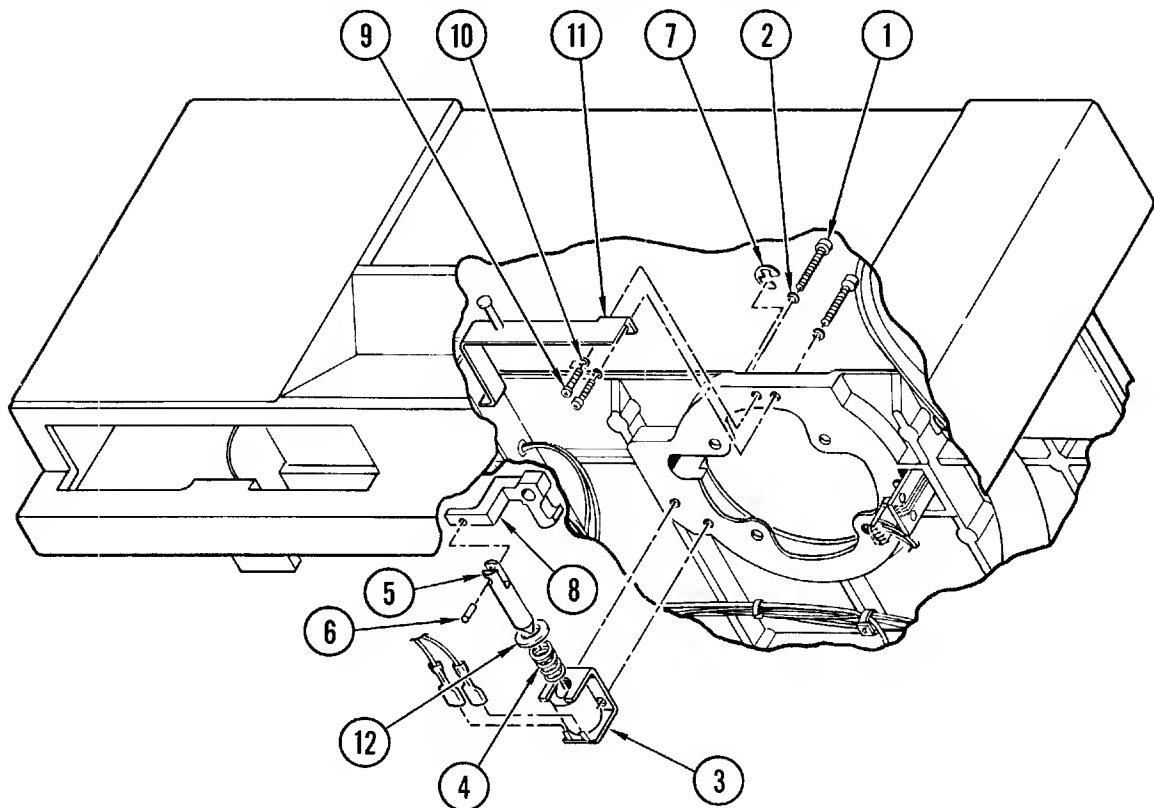

Figure 4-29. Hub Lock Assembly
4-45. Disassembly, Removal and Replacement (Figure 4-29). To disassemble hub lock assembly and remove parts from top plate and supply motor, proceed as follows:
- c. Remove wire terminals from solenoid (3, Figure 4-29) and identify for reassembly.
- d. Remove two screws (1), and lockwashers (2), and remove solenoid (3) from top plate and spring (4) and washer (12) from solenoid plunger (5).
- e. If plunger (5) or bellcrank (8) must be replaced, remove supply motor in accordance with instructions in paragraph 4-44. Remove retaining ring (7) and bellcrank (8) from motor, and press out pin (6), releasing plunger (5).
4-47. Manual Unlock Assembly (Hub Lock) (Figure 4-29). To replace the manual unlock assembly or one of its parts, proceed as follows:
- b. Remove manual unlock assembly (11) from top plate by removing two screws (9, Figure 4-29) and lockwashers (10).